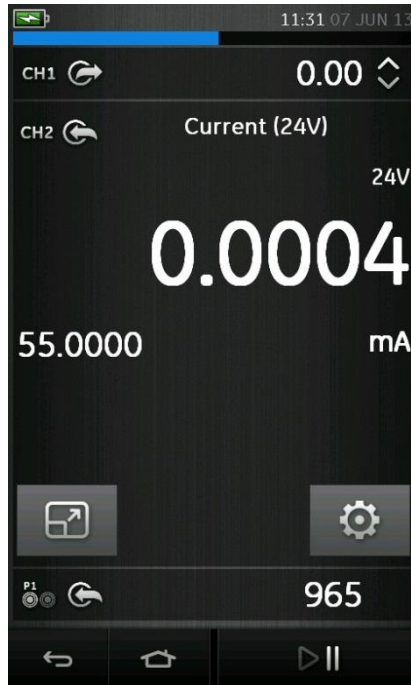

Figure 2-9 Calibration Window - Expanded View
- Figure 2-9 displays an expanded view of the selected channel and minimizes the remaining channels.